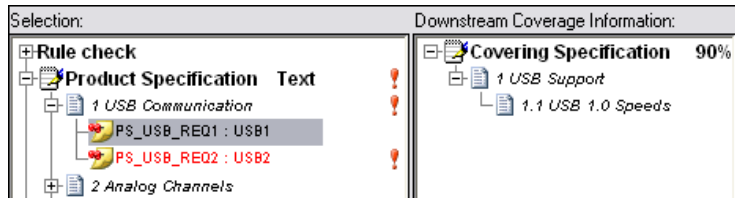

Figure 3-2. PS_USB_REQ1 Selected in Coverage Analysis View
5. Select the **PS_USB_REQ1** requirement, as shown in Figure 3-2.